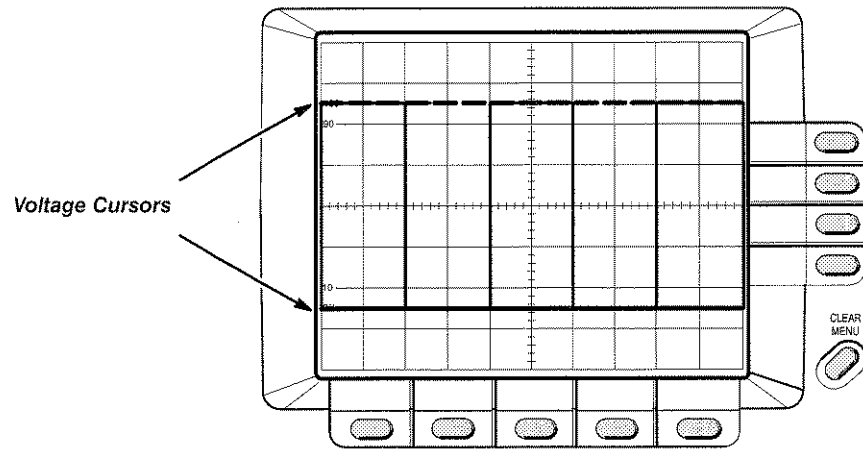

Figure 3-15: Taking a Delta Voltage Measurement
4. Press the **TOGGLE** button to activate the second cursor. Use the General Purpose Knob to move this second cursor along the waveform to the point where you want to make the measurement in reference to the placement of the first cursor. See Figure 3-15 for placement of cursors.